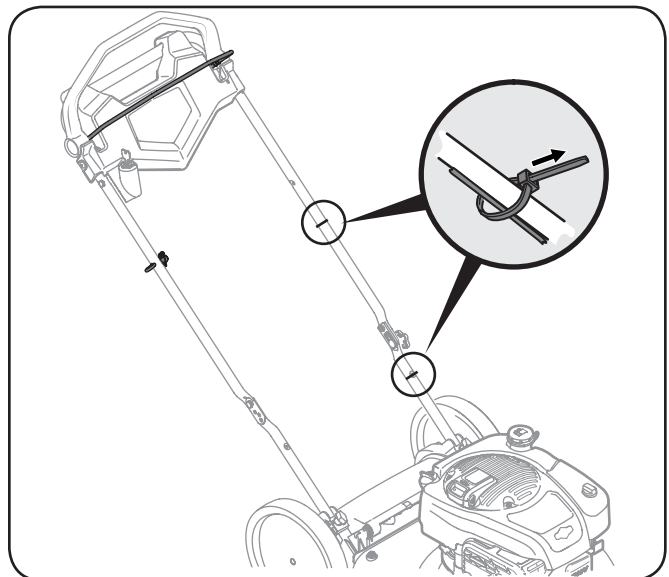

Figure 3-6
4. Use cable ties provided to secure blade control and drive cables to lower handle as shown in Figure 3-6.